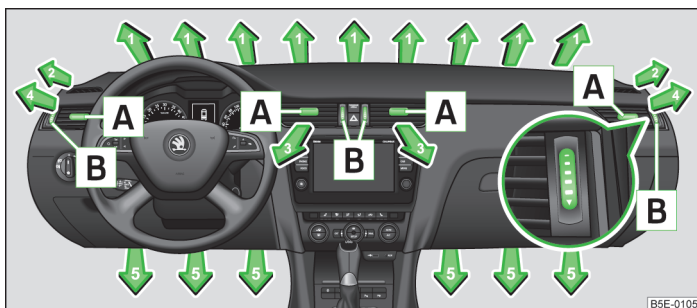
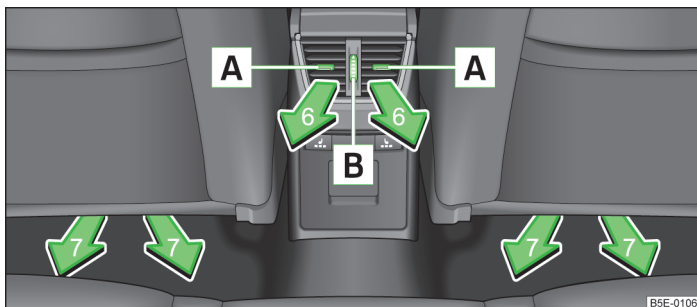

Fig. 106 Air vents at the front
Fig. 107 Air vents at the rear
The direction of airflow can be adjusted using the air outlet vents **3, 4** » Fig. 106 and **6** » Fig. 107 - the outlets can be opened and closed individually.
- » To change the height of the air flow, swivel the horizontal fins with the movable adjuster **A** » Fig. 106 or » Fig. 107 upward or downward.
- » To change the lateral direction of the air flow, turn the vertical fins with the movable adjuster **A** » Fig. 106 or » Fig. 107 to the left or right.
- » Turn the regulator **B** » Fig. 106 or » Fig. 107 upwards or downwards.
We recommend that you leave the air outlet vents 3 » Fig. 106 on page 107 in the open position in all operating modes.